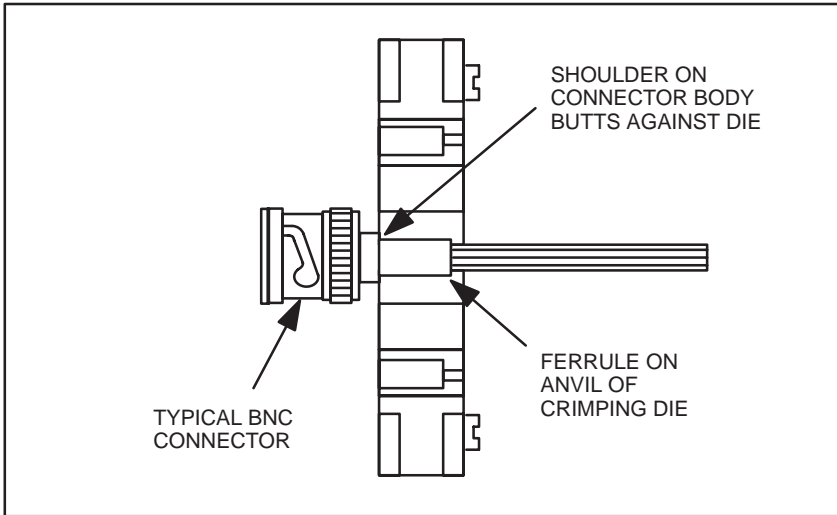

Figure 3.14 - Connector Installation Step 9 for RG-59/U Cable
- Step 9. Place the ferrule on the anvil of the die assembly so that the shoulder on the connector body butts against the die. See figure 3.14.